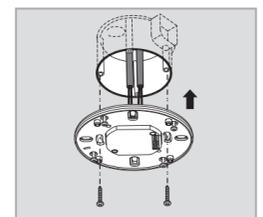

FIG.10
3.4.1.3 Fix the power box into junction box with 2pcs screws (See FIG.10).